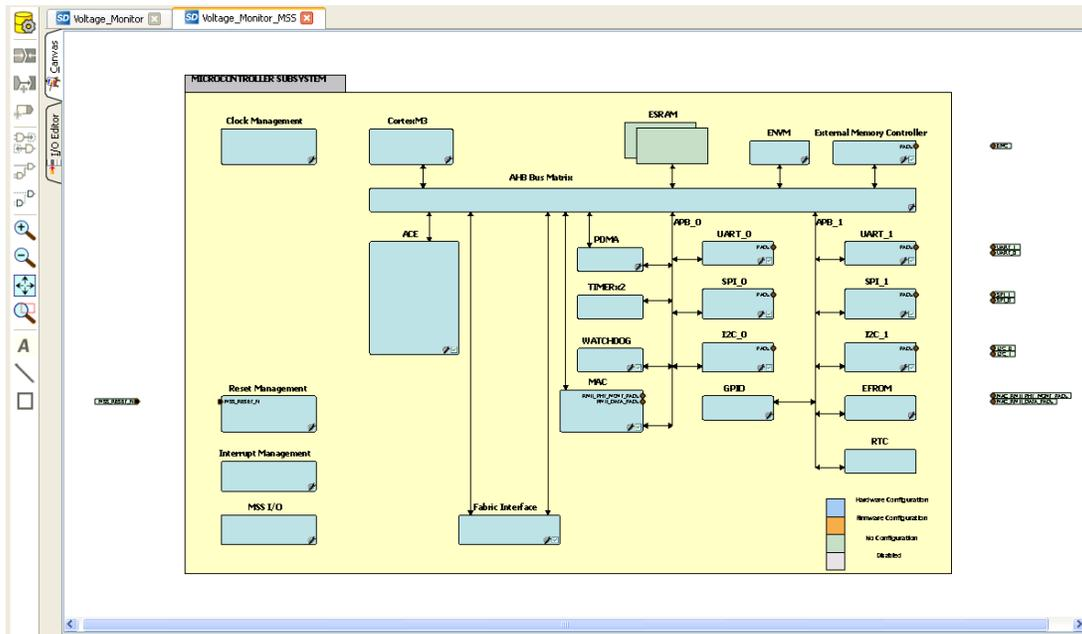

Figure 4 · MSS in the SmartDesign Canvas
1. Double click on **Voltage_Monitor_MSS_0** component to configure the MSS. The MSS is displayed in the SmartDesign Canvas opens in a new tab, as shown in Figure 4 . .